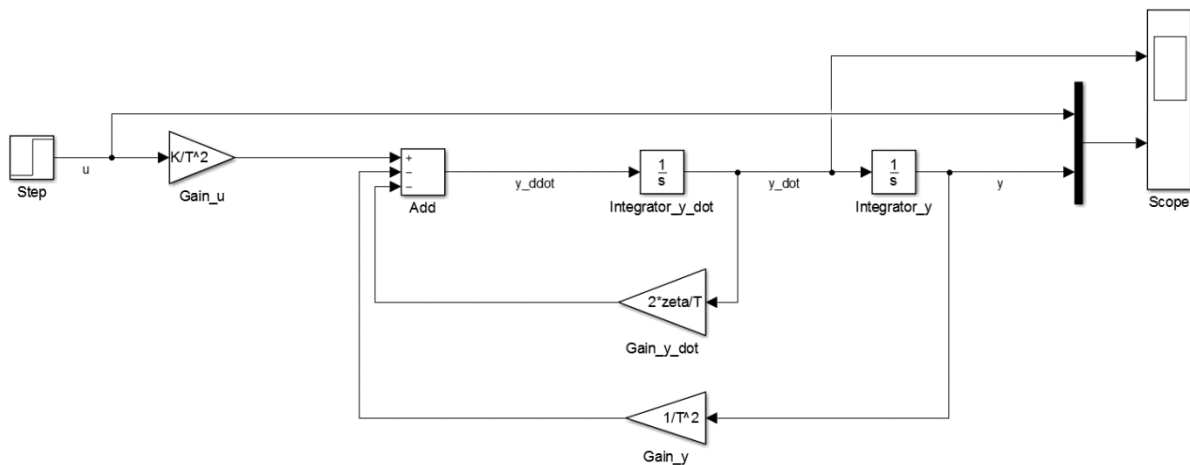

Figure 1-3: Complete PT2 system
- (8) Connect the blocks to obtain the diagram as shown in Figure 1-3.